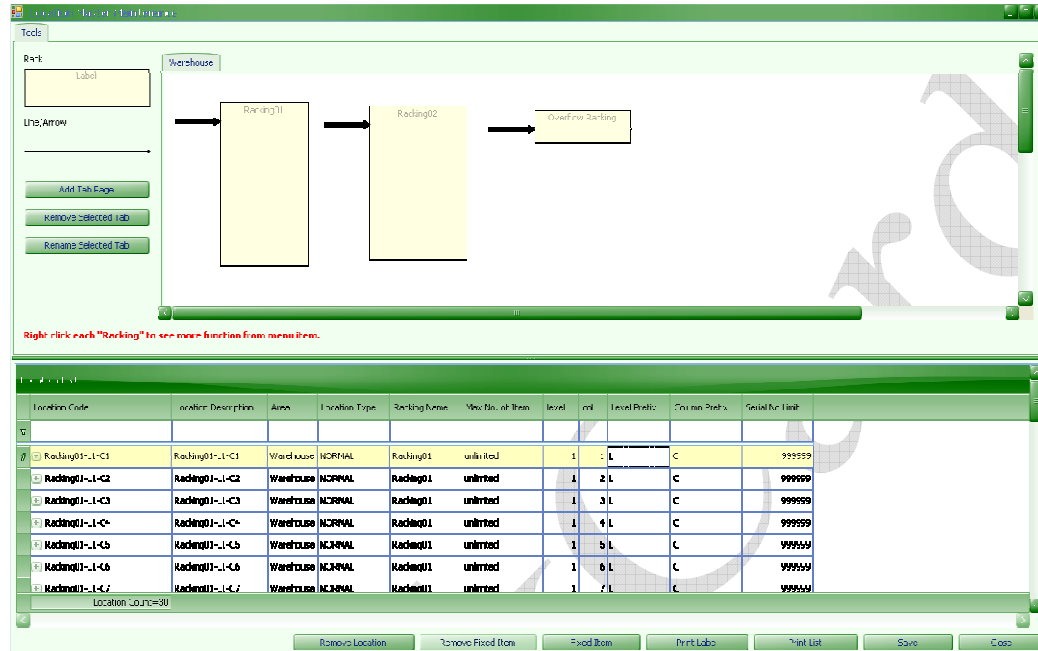

Fig. 17
Step 1 If you wish to modify the storage properties (either single location or batch of location), Select Settings > Location (Fig. 17)